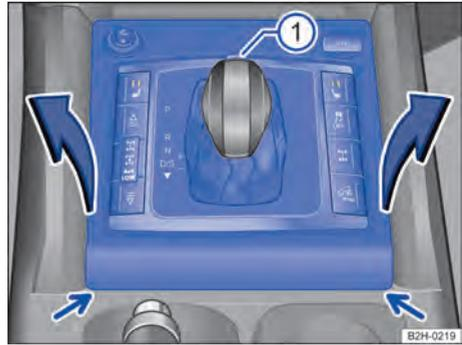

Fig. 106 Removing the cover of the gearshift gate.
3. Carefully pry the selector mechanism cover out of the trim → Fig. 106 (arrows), for example using a screwdriver.
4. Carefully pull the cover upwards in the area around the selector lever gaiter with connected electrical wiring → Fig. 106.
2. Press the lock button on the front of the selector lever → Fig. 106 ① and move the selector lever into the neutral position **N**.